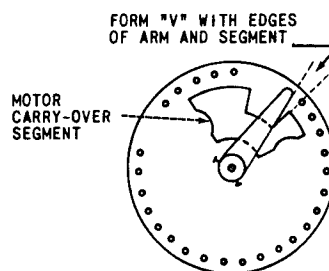

Figure 6.
2. Set the Contact Arm on the shaft so the edge of the blade forms a "V" with the edge of the motor carry-over segment as shown in Figure 6, and the lower part of the hub is spaced approximately $1/8$ " from the surface of the selector plate as shown in Figure 7.